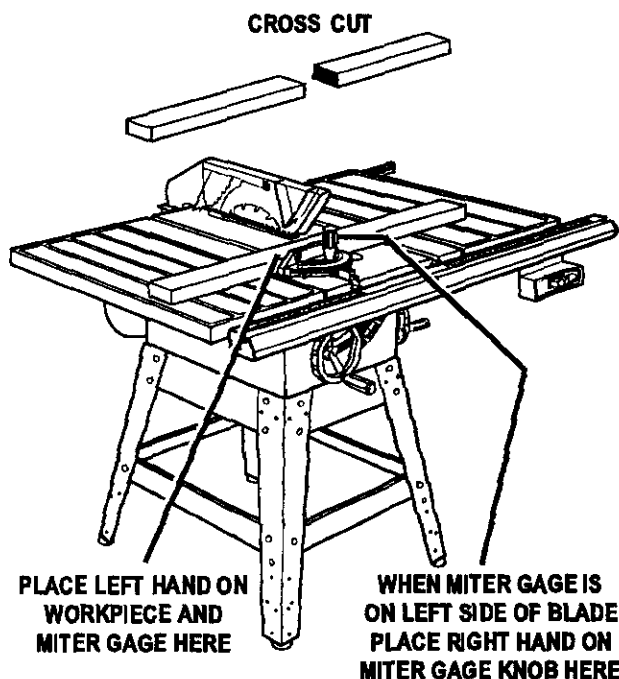

Fig. 47
See Figures 47 and 48.
- The miter gage may be used in either of the two grooves in the table. When using left groove, hold workpiece firmly against the miter gage base with your left hand and grip the knob with your right hand. When using the right groove, hold workpiece firmly against the miter gage base with your right hand and grip the knob with your left hand. See Figure 47.